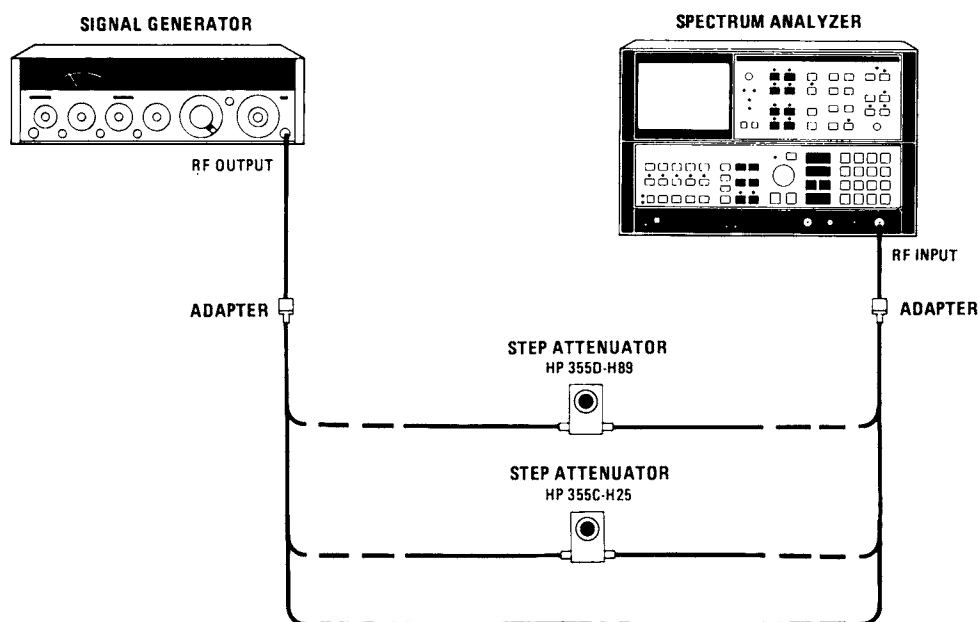

Figure 4-11. IF Gain Uncertainty Test Setup
Equipment listed is for two test setups, Figures 4-11 and 4-13.
6. Connect the output of the signal generator to the analyzer input through the 10 dB step attenuator (HP 355D) as shown in Figure 4-11, with step attenuator set at 0 dB.